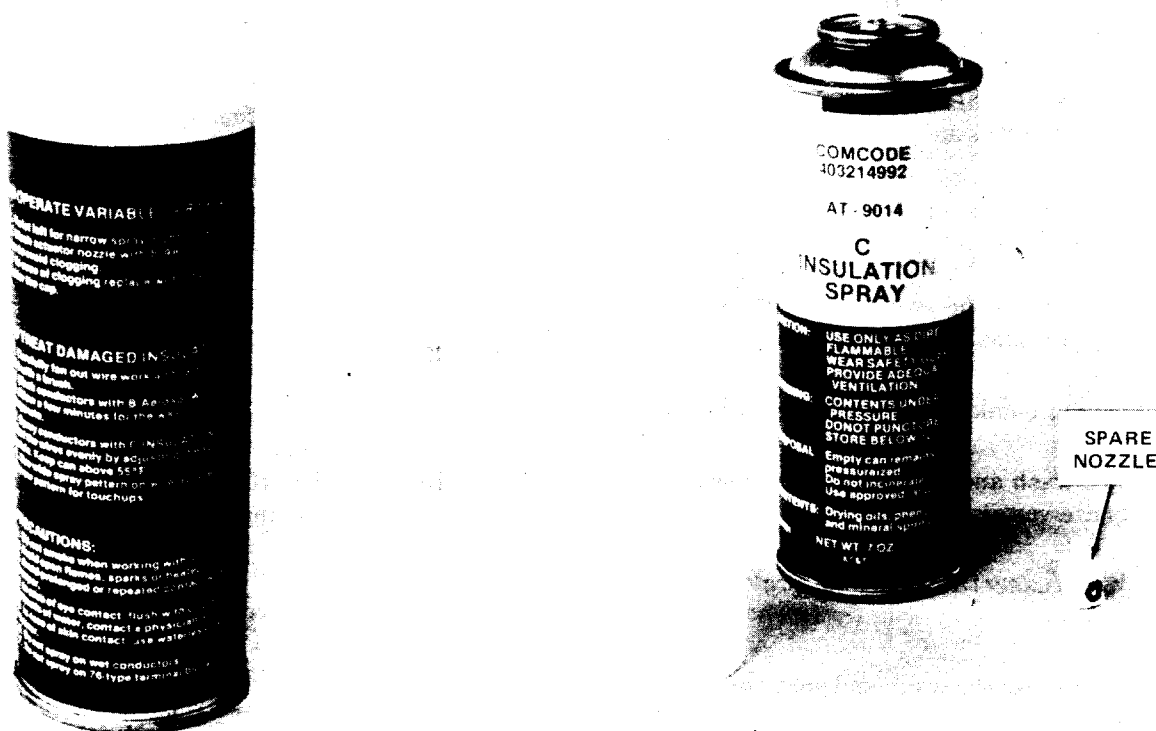

Fig. 1 —C Insulation Spray
3.02 The C insulation spray (Fig. 1) is a composition of drying oils, a phenolic resin, and mineral spirits. The spray is furnished under pressure in a 7-ounce can with an actuator nozzle. A spare nozzle is supplied under the cap.